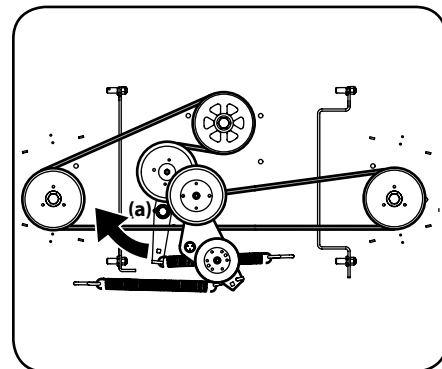

Figure 4-16
5. Using a 1/2" drive insert the end into the 1/2" square opening in the deck idler assembly (a) and rotate the deck idler assembly (a) clockwise. See Figure 4-16. While holding the deck idler assembly (a), loosen the deck belt from the pulley and slide the belt away from the pulley.
6. Route the new belt as shown in Figure 4-16. Then reinstall the deck and PTO belt as instructed on page 26.